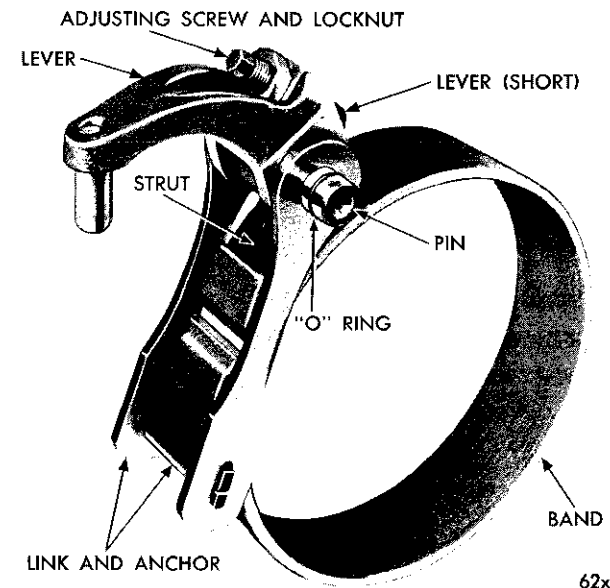

Fig. 86—Low Reverse Band and Linkage
(2) Compress the low and reverse servo piston spring by using the engine valve spring compressor Tool C-3422, then install the snap ring.
(3) Position the rear band in the case, install the short strut, then connect the long link and anchor to the band (Fig. 86). Screw in the band adjuster just enough to hold the strut in place. Be sure the long link and anchor assembly is installed, as shown in Figure 85 to provide a running clearance for the low and reverse drum. Install the low-reverse drum.